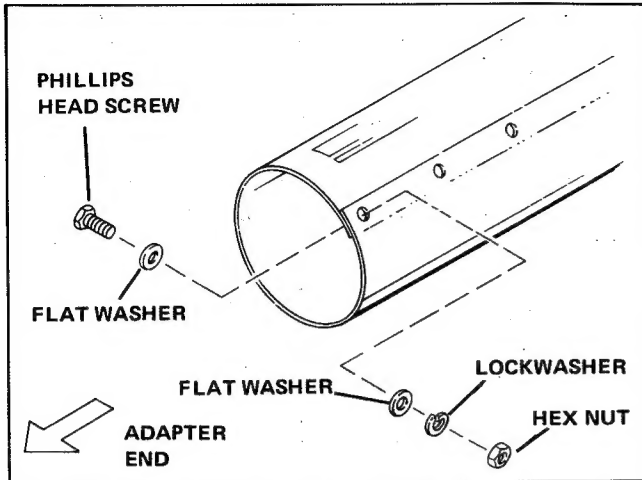

Figure 17. Assembling Inlet Tube
6. Assemble the inlet tube with the phillips head screws, flat washers, lockwashers and nuts provided. Place a flat washer on each screw, and insert the screws from the inside of the tube, placing a flat washer, lockwasher, and nut on each screw on the outside of the tube. (See figure 17.)